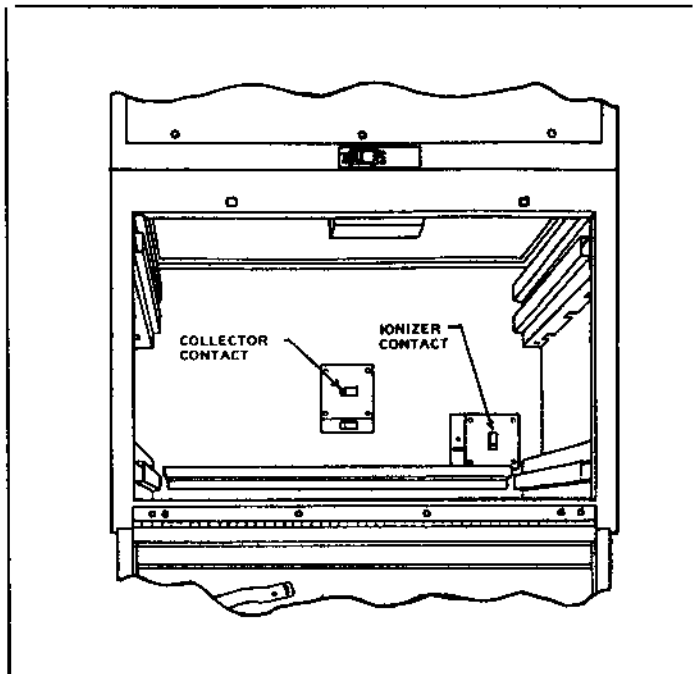

Figure 21 Cell Insulators & Contacts
- c. Using voltmeter set to the 5000 Vdc range, measure the voltage from the collector contact to ground (See Figure 21). Collector voltage should be approximately 4600 Vdc (reading may vary from 3950 to 4800 Vdc).
- d. Using voltmeter set to the 10000 Vdc range, measure the voltage from the ionizer contact to ground (See Figure 21). Ionizer voltage should be approximately 9200 Vdc (reading may vary from 8400 to 9600 Vdc).
- a. Turn Off the air cleaner and release the safety interlock switch. Short circuit the collector and ionizer contacts by placing a screwdriver to the collector contact-to-ground and the ionizer contact-to-ground (See Figure 21). This will bleed off high voltage still present in the power supply after air cleaner is turned Off.
b. Release the safety interlock switch. Short circuit the collector and ionizer contacts by placing a screwdriver to the collector contact-to-ground and the ionizer contact-to-ground (See Figure 21). This will bleed off high voltage still present in the power supply after air cleaner is turned Off.
c. Remove dirt accumulated on the insulators and on both the ionizer and collector contact tabs (See Figure 21).